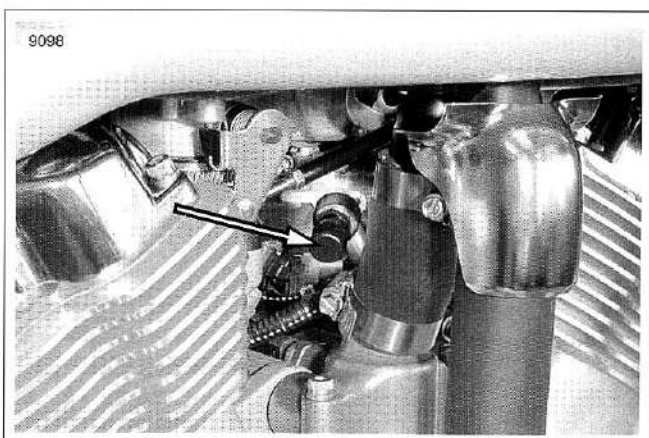

Figure 9-20. Schrader Valve Location
5. See Figure 9-20. Remove protective cap from Schrader valve in fuel metering assembly.